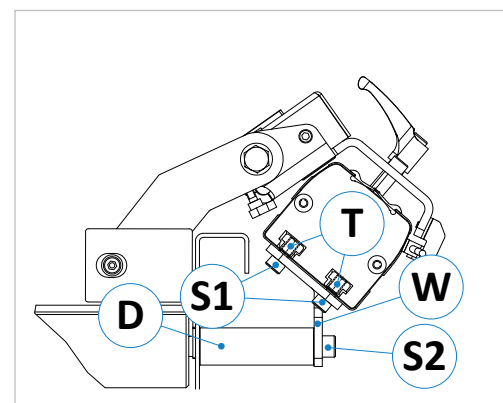

Figure 5: Side view of the mounted unit
3. Fix the bracket (**W**) with the screw (**S2**) in the respective roller hole (see ⇒ Figure 5).